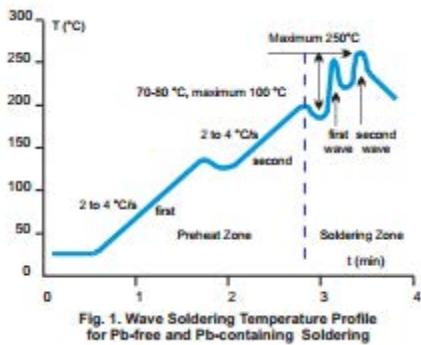

Fig. 1. Wave Soldering Temperature Profile for Pb-free and Pb-containing Soldering
**Thermal Shock** – to avoid the possibility of generating stresses in the varistor chip due to thermal shock, a preheat stage to within 100 °C of the peak soldering process temperature is recommended. Additionally, SMD varistors should not be subjected to a temperature gradient greater than 4 °C/sec., with an ideal gradient being 2 °C/sec. Peak temperatures should be controlled. Wave and Reflow soldering conditions for SMD varistors with Pb-containing solders are shown in Fig. 1 and 2 respectively, while Wave and Reflow soldering conditions for SMD varistors with Pb-free solders are shown in Fig. 1 and 3.